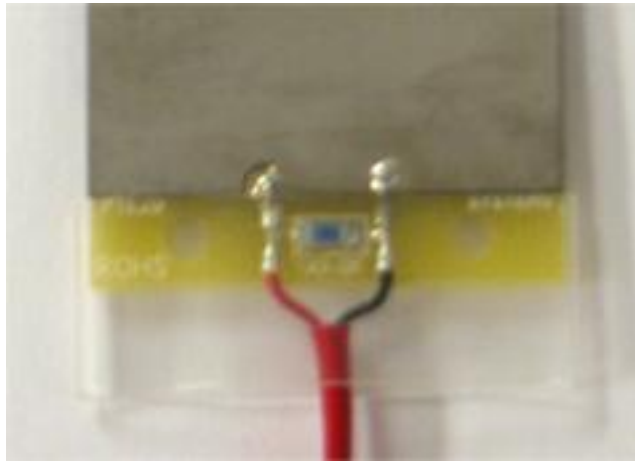

Fig. 4.3L The heat-shrink tubing should come right up to the piezoceramic piece.
- 4.3L Cut a $\frac{1}{2}$ " length of $\frac{3}{4}$ " clear heat-shrink tubing. Affix this to the base of the bending actuator so that the top of the clear heat-shrink tubing meets the bottom of the piezoceramic rectangle of the bending actuator as shown in figure 4.3L below.